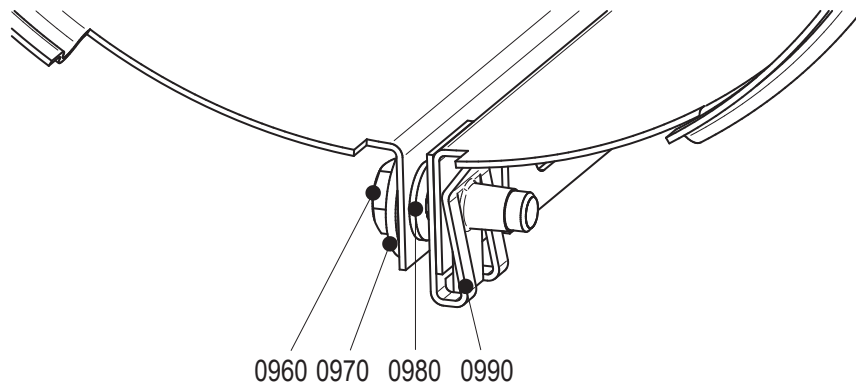

Figure 9: Fitting jacket.
- 1 Loosen bolts (0960). See figure 9.
- Close the jacket and fit bolt (0960). See figure 9.